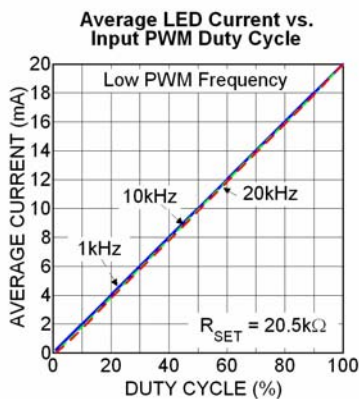
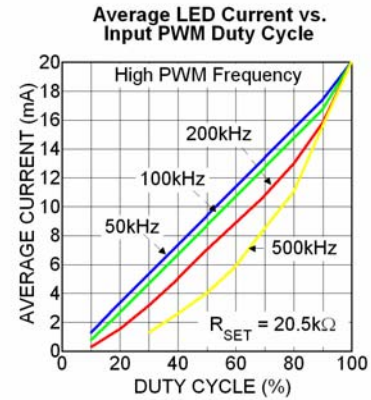
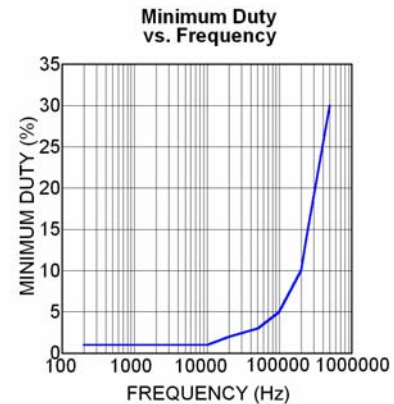
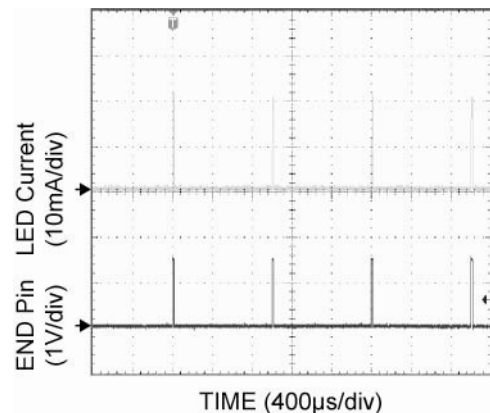

Figure 3. Average Current per LED Dimming by Changing PWM Duty Cycle for PWM Frequencies up to 20kHz
Figure 4. Channel Current Response to PWM Control Signal Frequencies from 50kHz to 500kHz
Figure 5. Minimum Duty Cycle for Varying PWM Frequency
Figure 6. PWM Signal at 1% Duty Cycle ( $I_{avg} = 0.2mA$ )
WLED dimming is achieved by applying a pulse width modulated (PWM) signal to the END pin. For PWM frequencies between 200Hz – 20kHz the MIC2845A supports a duty cycle range from 1% to 100%, as shown in Figure 3. The MIC2845A incorporates an internal shutdown delay to ensure that the internal control circuitry remains active during PWM dimming. This feature prevents the possibility of backlight flickering when using low frequency PWM control signals. The MIC2845A also supports Ultra Fast PWM™ frequencies from 20kHz to 500kHz. Due to input signal propagation delay, PWM frequencies above 20kHz have a non-linear relationship between the duty cycle and the average LED current, as shown in Figure 4 and Figure 5. Figures 6 through 10 show the WLED current response when a PWM signal is applied to the END pin (1).